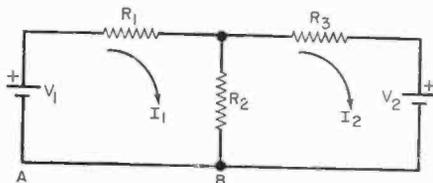

Fig. 7
Ex. 8. Figure 7 shows a two-mesh or two-loop network with the assumed clockwise direction of current flow in each mesh indicated. Write the necessary equations to solve for the two currents. Sol. For the first mesh, beginning at point A, the voltages are  $-V_1 + (R_1 + R_2)I_1 - R_2I_2 = 0$  (Eq 1). For the second mesh, starting at point B,  $-R_2I_1 + (R_2 + R_3)I_2 + V_2 = 0$  or  $-V_2 = -R_2I_1 + (R_2 + R_3)I_2$  (Eq 2). Equations (1) and (2) constitute a pair of simultaneous equations. Terms  $R_1 + R_2$  and  $R_2 + R_3$  are the self resistance of meshes 1 and 2, respectively; term  $R_2$  is the mutual resistance linking the two meshes.
**Ex. 9.** If, in Ex. 8,  $R_1 = 1$  ohm,  $R_2 = 2$  ohms,  $R_3 = 4$  ohms, and  $V_1 = V_2 = 6$  V, solve for  $I_1$ ,  $I_2$ , and the voltage across each resistor. *Sol.* Substituting the given values in Eqs (1) and (2), we get  $6 = 3I_1 - 2I_2$  (Eq 3) and  $-6 = -2I_1 + 6I_2$  (Eq 4). Equations (3) and (4) may be solved for  $I_1$  and  $I_2$  in a number of ways. If, for example, we multiply Eq (3) by 3 and add the result to Eq (4), we have  $12 = 7I_1$  or  $I_1 = 12/7$  A. Substituting this value in Eq (4) and solving,  $I_2 = -3/7$  A. The negative sign denotes that  $I_2$  actually flows in a direction opposite to that assumed in Fig. 7. The voltage across  $R_1$  is  $V = (12/7)1 = 12/7$  V; across  $R_2$ ,  $V = (12/7 + 3/7)2 = 30/7$  V; and across  $R_3$ ,  $V = (-3/7)4 = -12/7$  V.